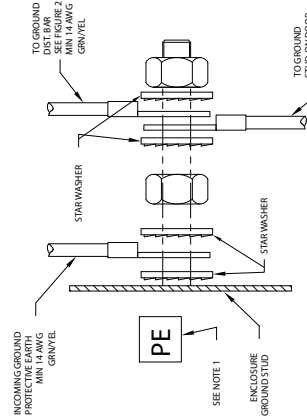

FIGURE 1 NTS
3. REFER TO FIGURE 1 FOR GROUND STUD DETAIL.